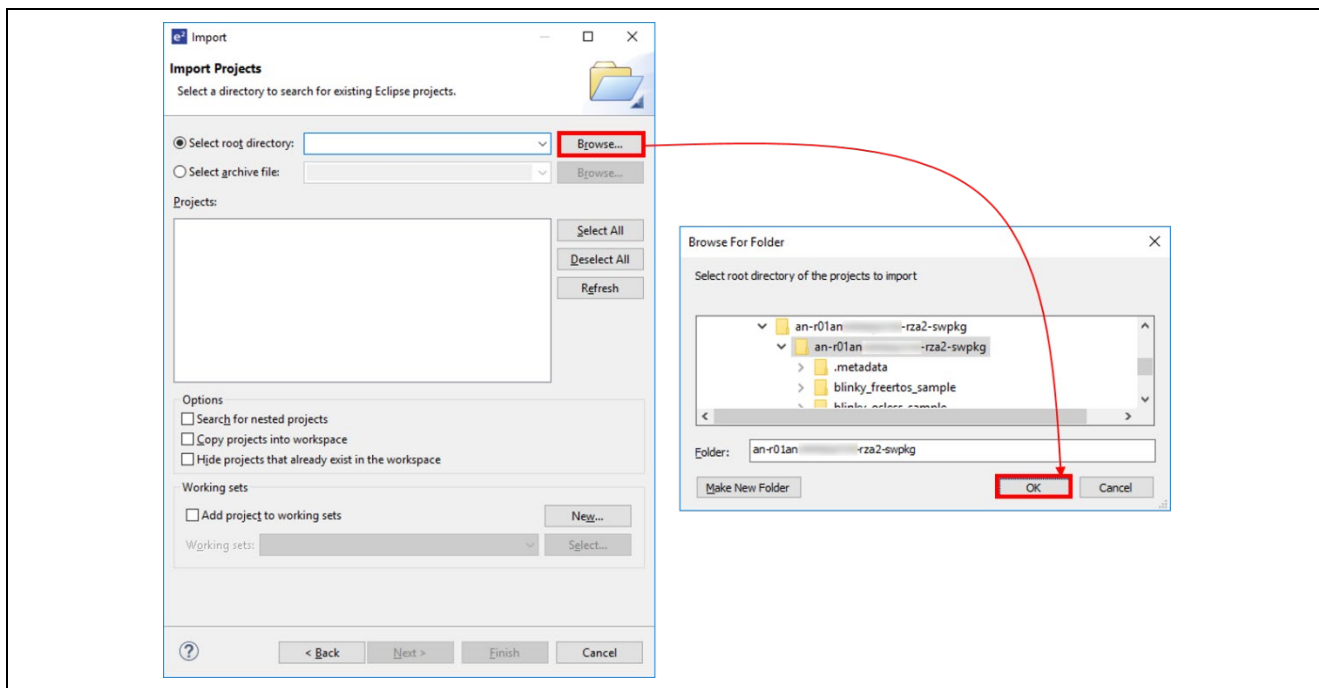

Figure 3-5 Select root directory
- Click "OK". These 2 steps are shown in Figure 3-5.